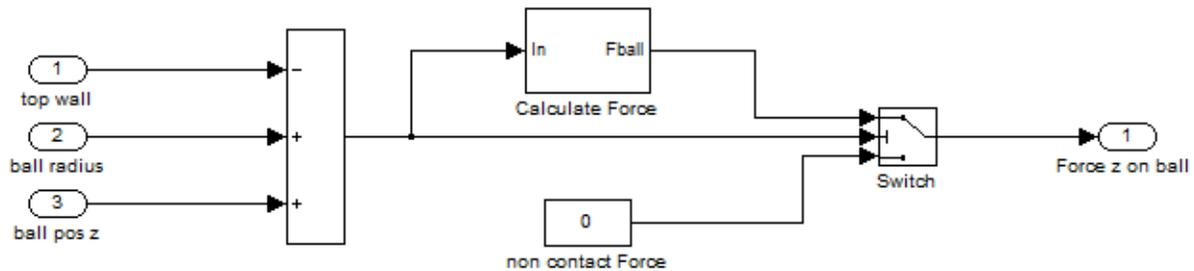

Figure 12.4: **PD Contact Top Wall** model
3. Double click on **PD Contact Top Wall** subsystem to look underneath it. The model is shown in Figure 12.4